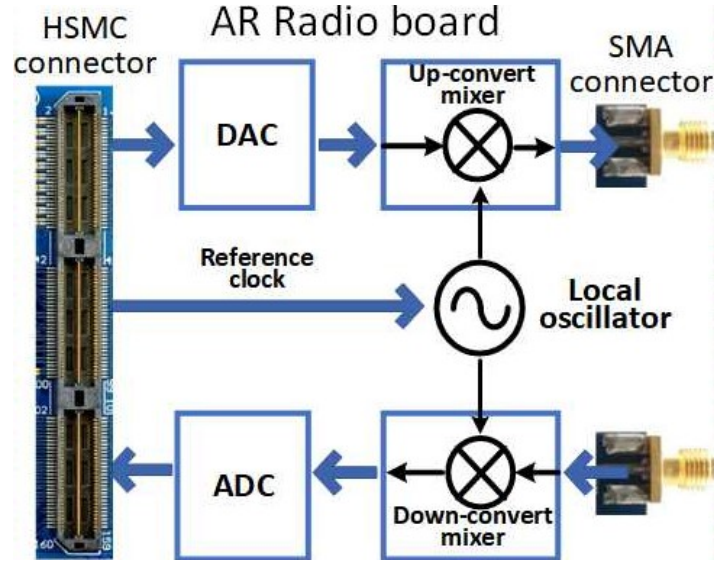

Figure 1: *Simplified block diagram of the ARRadio daughter card.*
A simplified block diagram describing the ARRadio daughter card is shown in Fig. 1. There are three main components on this card: The analog-to-digital converter (ADC) and digital-to-analog converter (DAC), up-convert and down-convert mixers, and a local oscillator (LO). The HSMC connector is used to connect the daughter card to the DE10 board, and the digital baseband signal generated from the FPGA is sent to the DAC through the HSMC connector. The analog baseband signal at the output of the DAC is mixed with the LO through the up-convert mixer and becomes a radio frequency (RF) signal. The RF signals are transmitted and received through SMA connectors. At the receiver side, the received RF signal is converted to a baseband signal by mixing with LO signal through the down-convert mixer. The baseband signal is then digitalized by the ADC and the resulting digital signal is transmitted to the FPGA on the DE10 board for further processing.